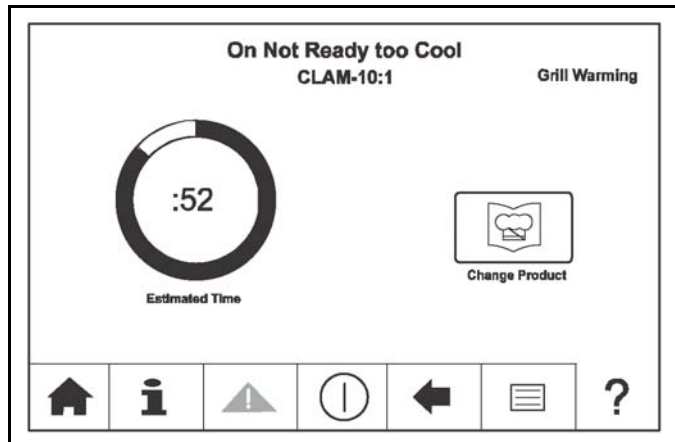

Figure-20
- Pressing the ON key  will display the heat-up timer. See Figure-20.